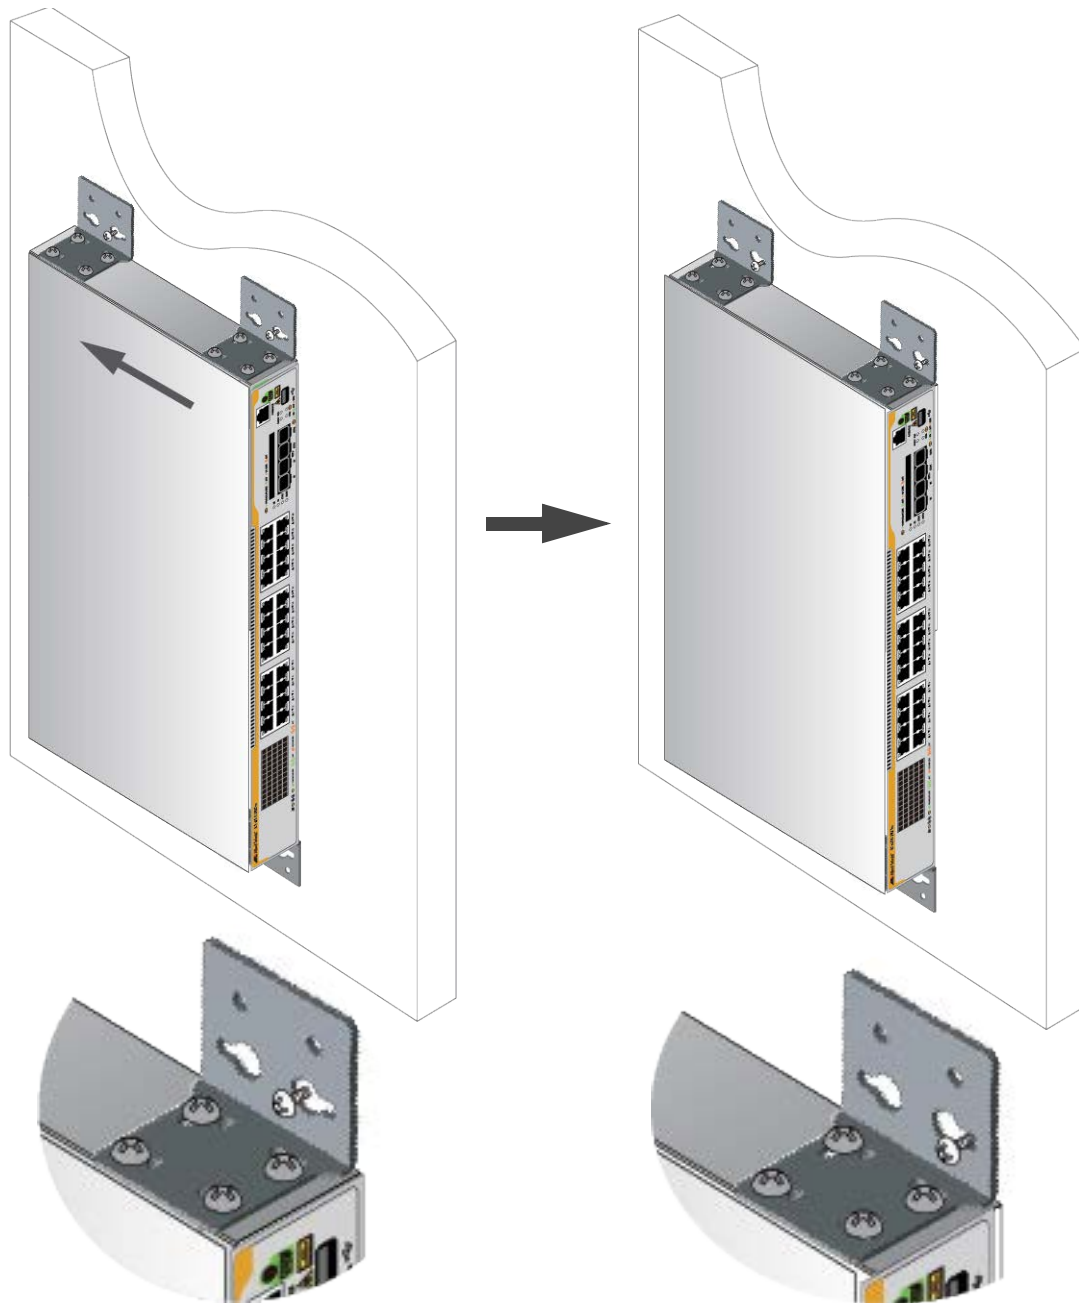

Figure 29. Hooking and Slide the Switch
9. Install the brackets on the screws by sliding the key-hole slots under the screw heads. See Figure 29.